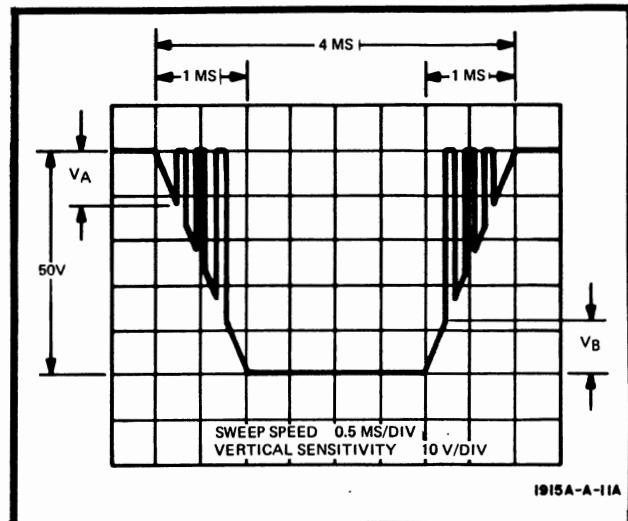

Figure 5-13. Negative Overload Adjustment Pulse
j. Set Model 1915A WIDTH vernier, LEADING EDGE and TRAILING EDGE controls to obtain the display shown in Figure 5-13.
- n. Adjust A3R88 (neg power detector balance adj) and A3R85 (-PD) until V_A and V_B correspond to the values obtained in step m. (see Figure 5-13.)